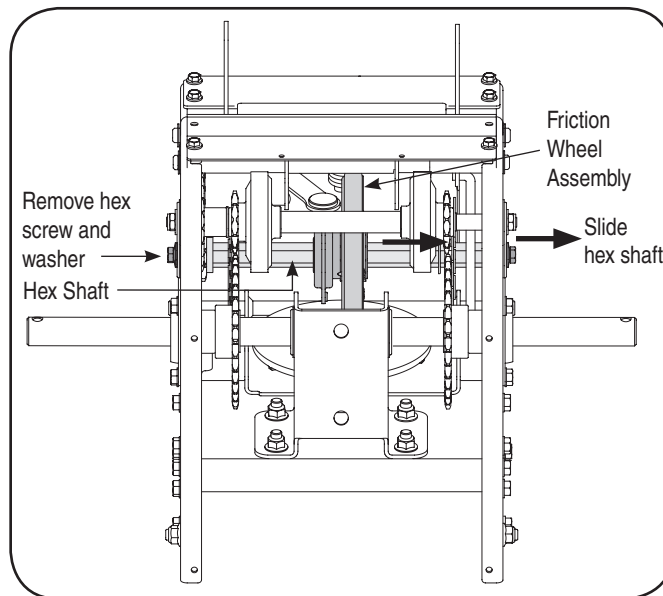

Figure 32
- Using a 3/4" wrench, hold the hex shaft and remove the hex bolts and cupped washer and bearing from left side of the frame. Refer to Figure 32.